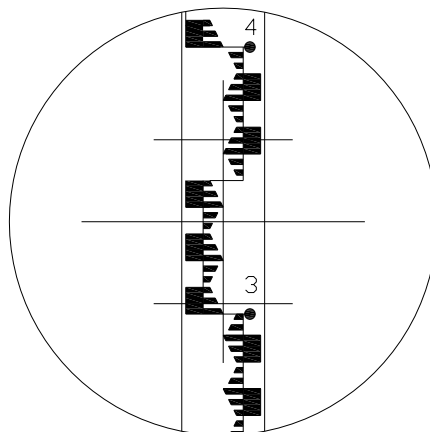

Figure 1
- Looking at the staff, read the height from the middle line on the crosshair (Figure 1 is 3.345m)